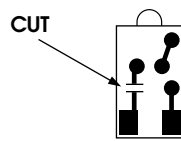

Fig. 2
- Lay the light board out in front of you, parts side down as in (Fig. 2). With a sharp hobby knife make a cut in the circuit trace as shown (Fig. 2).